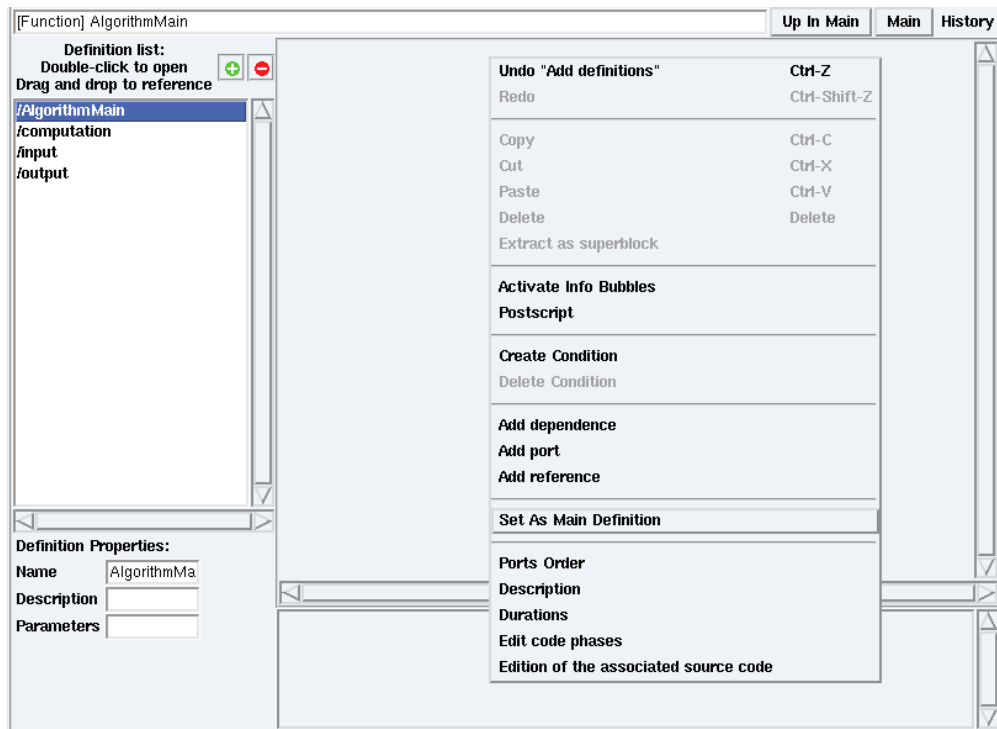

Figure 1.8: Contextual menu → **Set As Main Definition**
- double click on AlgorithmMain in the **Definition list**. Then right click on its background and select **Set As Main Definition** (cf. figure 1.8);